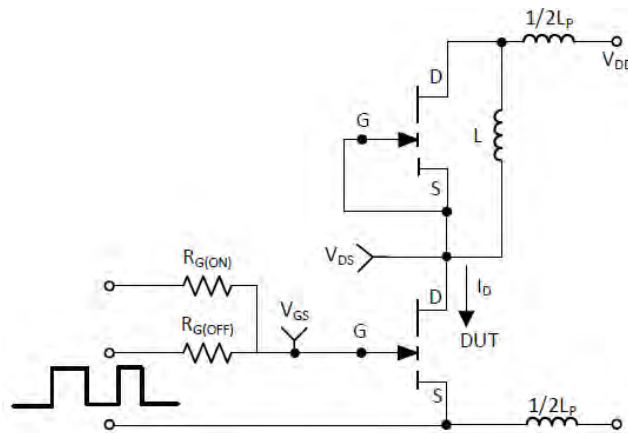

Figure 23: Switching Loss Test Circuit
(9) See Figure 23 for switching test circuit.